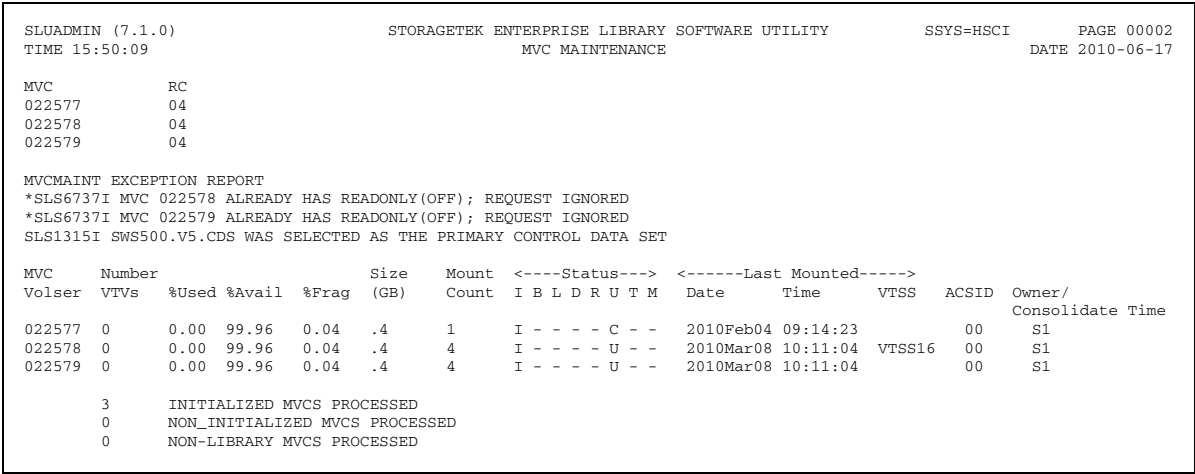

FIGURE 3-167 MVCMAINT report example
FIGURE 3-167 shows an example of an MVCMAINT report produced by the following command:
- As shown in FIGURE 3-167, the MVCMAINT report shows: